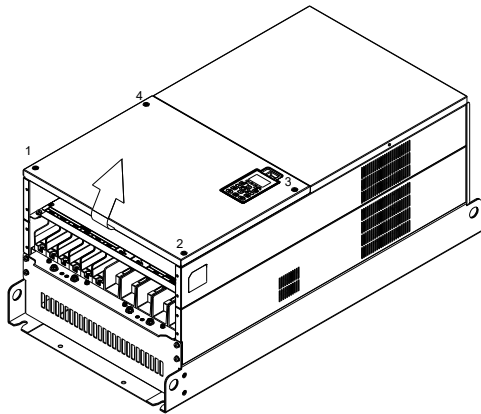

Figure 1
(1) Loosen the screw (figure 1) and remove the cover.